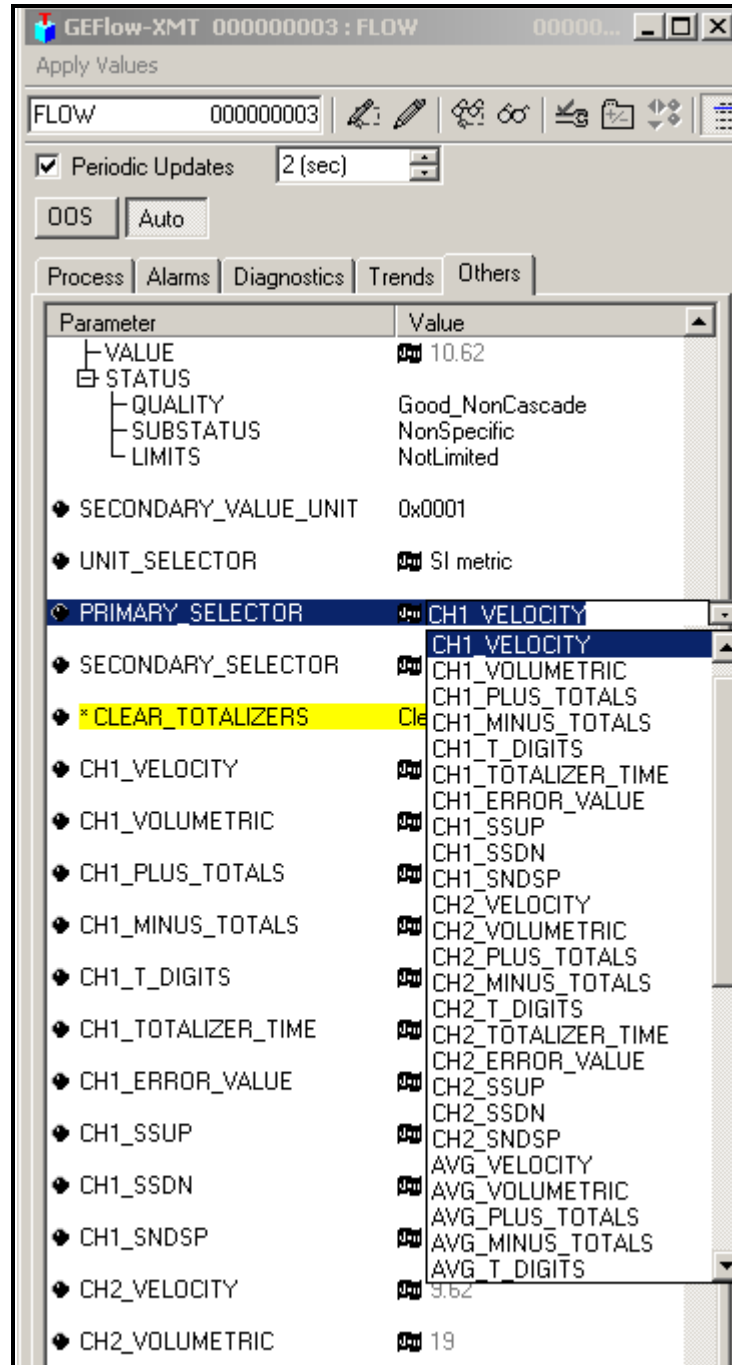

Figure 38: Primary Selector Drop Down List
2. Select the **Others** tab and open the drop down list for the PRIMARY\_SELECTOR and SECONDARY\_SELECTOR (refer to Figure 38 on page 41).
3. Choose the unit from the list (see Figure 38 on page 41).